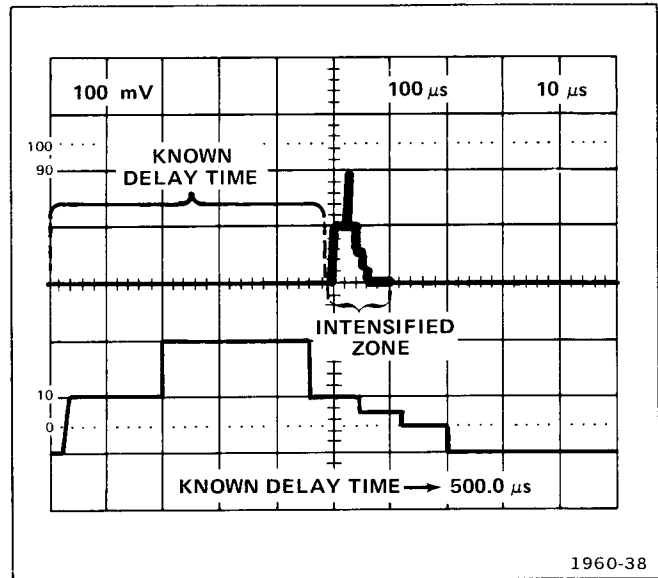

Fig. 1-12. Examining an event that occurs within a selected time interval after a known delay time in the delay-time mode.
- b. Set the appropriate triggering, position, deflection-factor, and sweep-rate controls for the desired dual-trace display. See the example in Figure 1-12.
*If there is excessive jitter in the delayed (B) sweep display, refer to the Triggered Delayed-Sweep Magnification discussion.*
- d. Set the delayed (B) sweep rate (i.e., the intensified zone length) for the desired time interval after the delay time selected in part c. Multiply the delayed (B) sweep rate by 10 to determine the actual displayed delayed (B) sweep time interval. See the example in Figure 1-12.
- e. Observe the magnified event to be examined on the delayed (B) sweep.